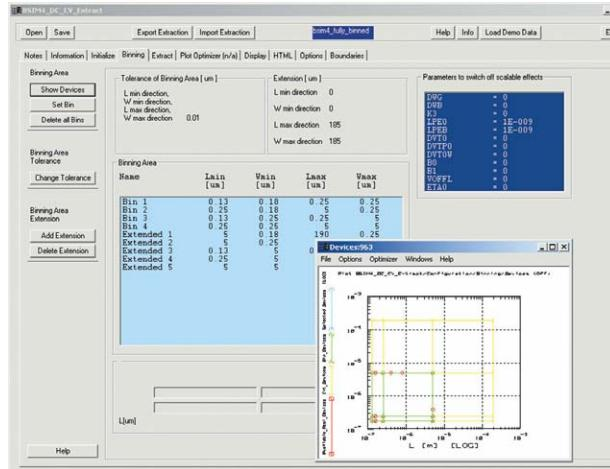

Figure 8: To configure devices for binned models, create a box for devices and click to set bin.
- Create a box covering four adjacent devices, as shown in Figure 8.